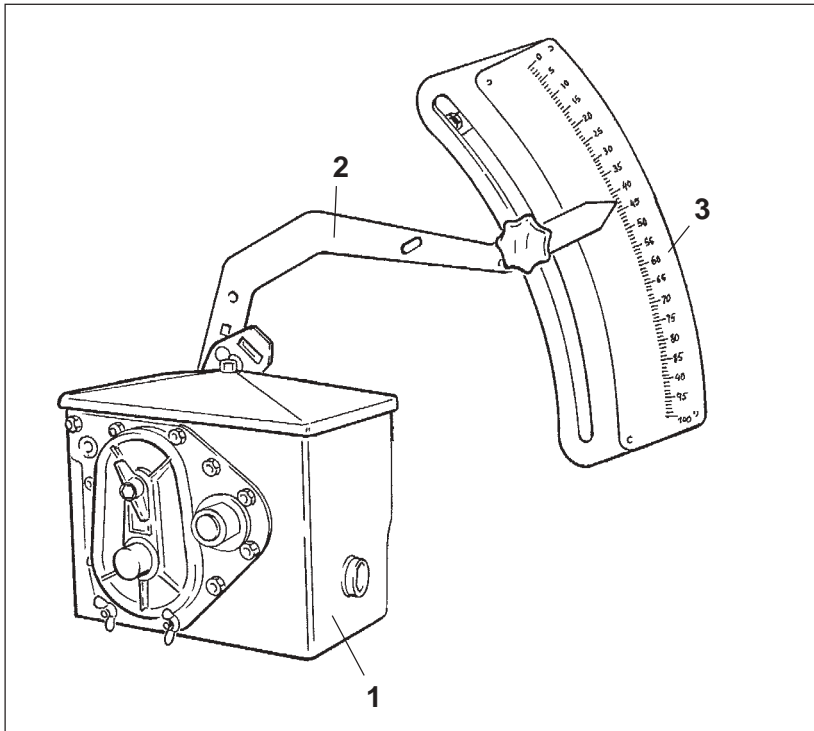

Fig. 21.1
- Move the gearbox setting lever (Fig. 21.1/2) up and down until the coupling screw becomes visible.
- Move gearbox setting lever (Fig. 21.1/2) up and down until the coupling screws become visible.
The desired seed rate is set by the gearbox setting lever (Fig. 21.1/2).
By the gearbox setting lever (Fig. 21.1/2) the speed of the metering shaft and thus the seed rate can be set steplessly. The higher the figure on the scale (fig. 21.1/3) has been chosen by the gearbox setting lever, the higher the seed rate will get.